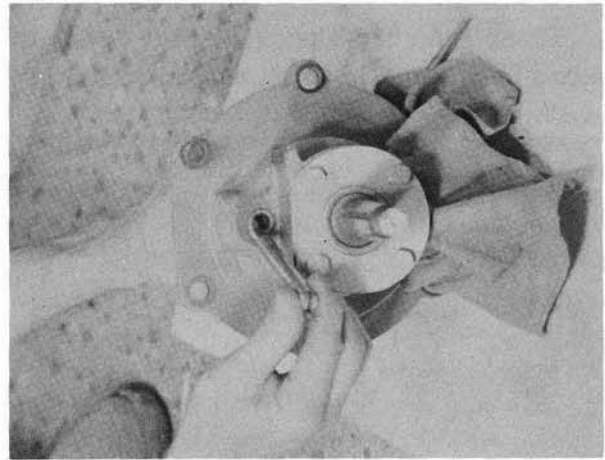

Figure 38
14. Insert the Clutch Sliding Pin through the "O" Ring all ready assembled in the axle housing, as seen in Figure 38 and thread tight into the Shifting Yoke. Back off at least